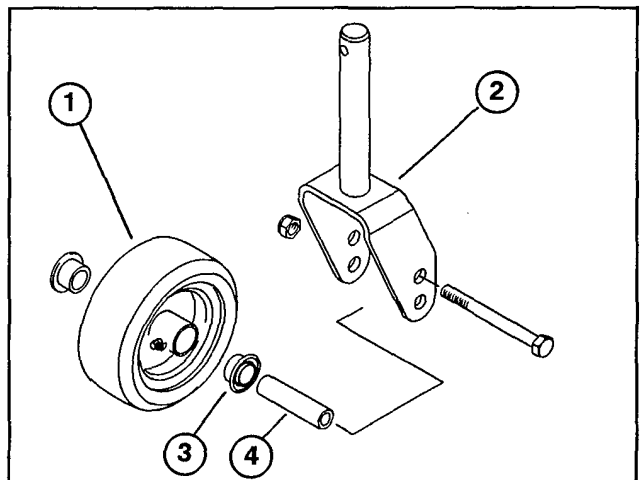
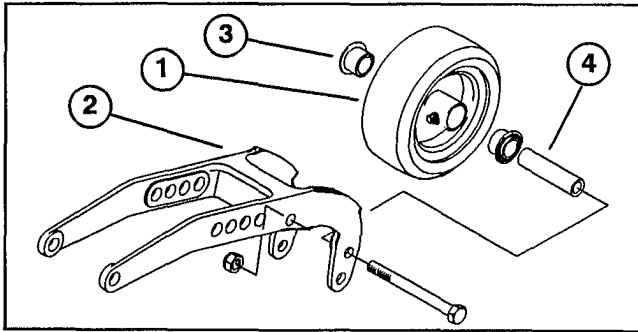

Figure 71
Figure 72
SERVICING CASTOR WHEELS AND BEARINGS (Fig. 71–72)
1. Remove locknut from capscrew holding castor wheel assembly between front castor fork (Fig. 71) or rear castor pivot arm (Fig. 72) Grasp castor wheel and slide capscrew out of fork or pivot arm.